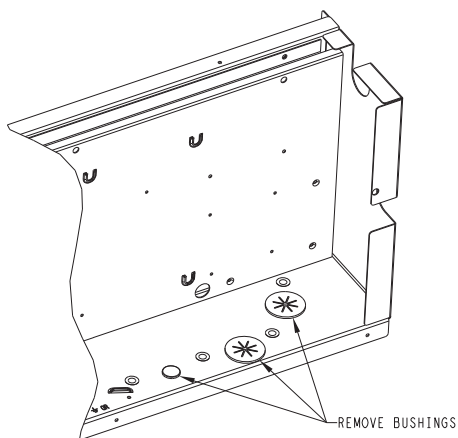
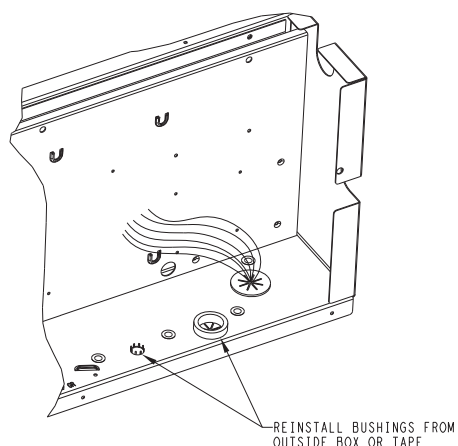

Fig. 41 - Control Box - Bushings to Remove
Fig. 42 - Bushings Replaced from Outside Control Box
6. All bushings in the area of the control box where the single point box (SPB) mounts must be removed prior to securing the SPB to the control box (See Fig. 41). Also, for units installed in the snow belt, all unplugged holes in the bottom of the control box, which are not used must be plugged before installing the SPB. Use foil tape or reinstall the bushings from the outside of the control box prior to securing the SPB (See Fig. 42).
Three-phase applications: Skip to Step 4. For single-phase applications, rewire the heater as follows (see Fig. 42):